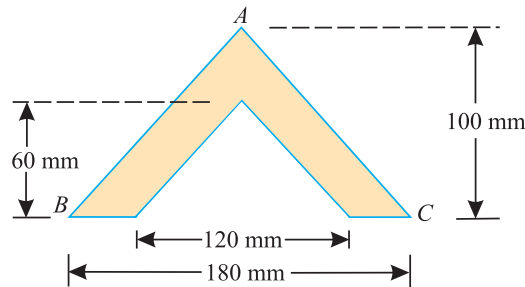

Fig. 7.9.
**Example 7.6.** A hollow triangular section shown in Fig. 7.9 is symmetrical about its vertical axis.